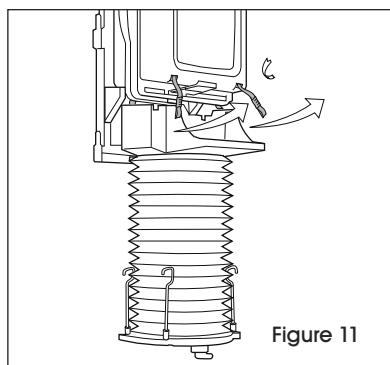

Figure 11
- Remove the ties holding the four straps and let them hang on each side of the waste reservoir. (See Figure 11)